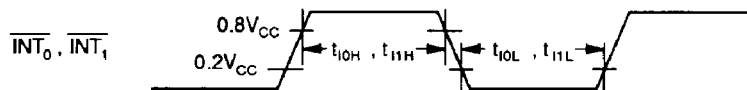

Figure 49 Interrupt Timing
4. See figure 49. The unit t_{cyc} is applied when the MCU is in standby mode or active mode.
6. See figure 49. The unit t_{SUBcyc} is applied when the MCU is in watch mode or subactive mode.